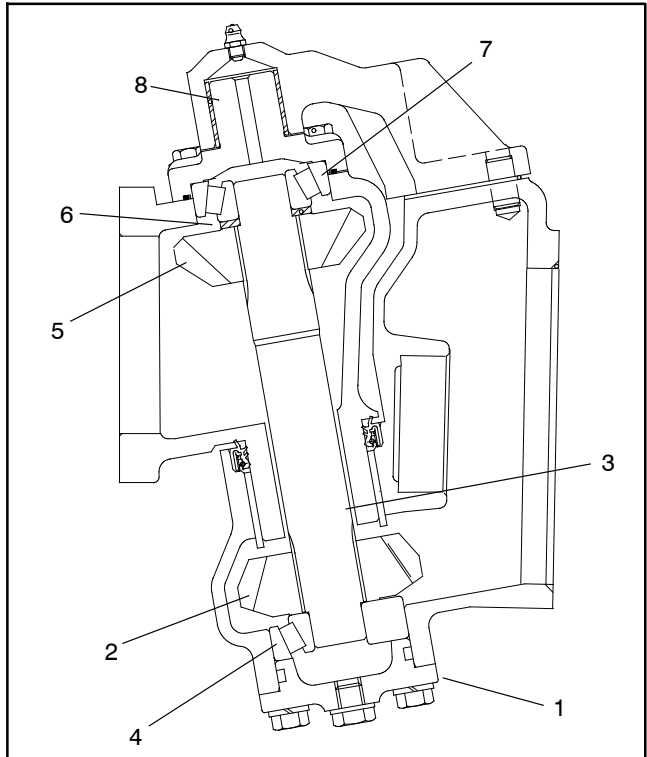

Figure 26
2. Install the lower bevel gear and bevel gear shaft in the axle case cover. Coat a new O-ring with grease and install the axle case cover (Fig. 26). Tighten cover screws from **17 to 20 ft-lb (23 to 27 N-m)**.
3. Slide the bevel gear case over the bevel gear shaft and install the bevel gear and collar. Make sure the bevel gear shaft is completely seated in the upper and lower bearings (Fig. 26).